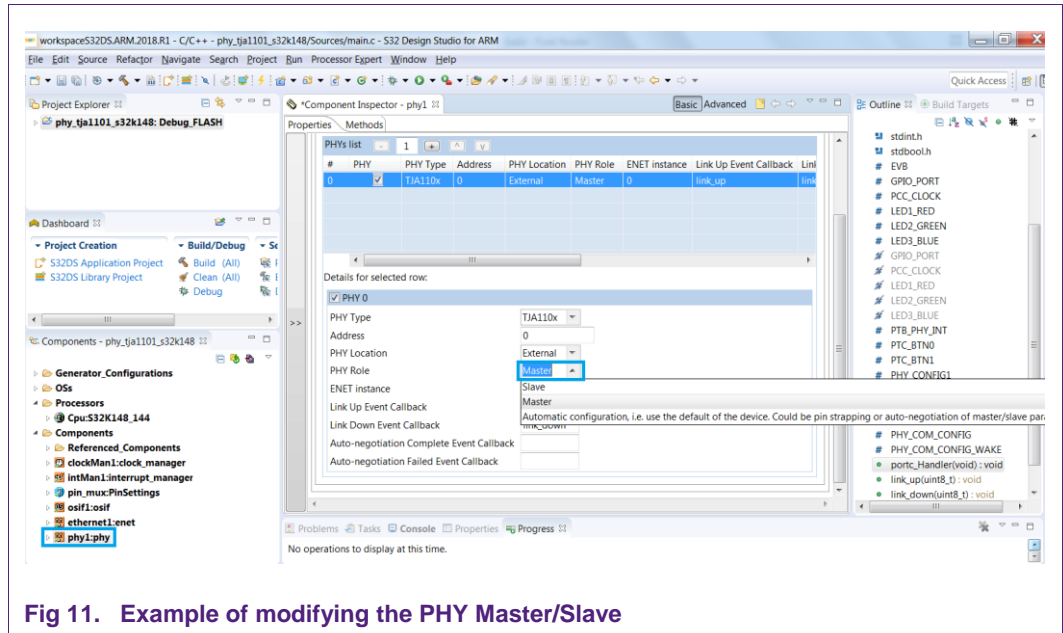

Fig 11. Example of modifying the PHY Master/Slave
- A new project with the name “phy_tja1101_s32k148” appears in the project explorer. Now you can modify the example codes by your own. Fig 11 shows how to modify the Master/Slave configuration of the TJA1101 in S32DS: double click the “phy1: phy” (usually lower left corner), then select the Master/Slave/Automatic (pin strapping) in the drop-down list of the “PHY Role” box.
- Configure the Master/Slave during startup of the TJA1101 via the jumper “SEL_MAST/SLV” (Open=Master, Closed=Slave) on the ADTJA1101-RMII board, in case the TJA1101 is configured as “Automatic configuration...” in S32DS (see Fig 11). Please refer to the user manual of the ADTJA1101-RMII regarding the jumper settings